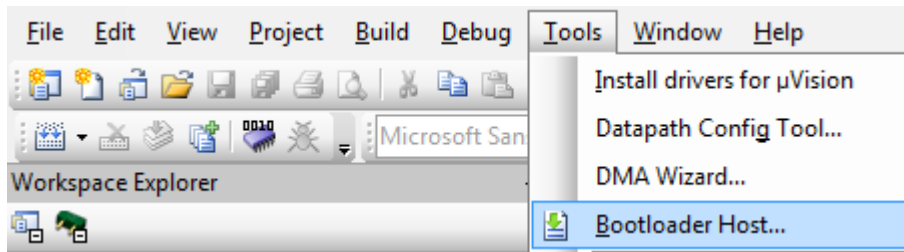

Figure 7: Opening Bootloader Host
- Open the Bootloader Host Application from Tools > Bootloader Host in PSoC Creator as shown in the Figure 7.